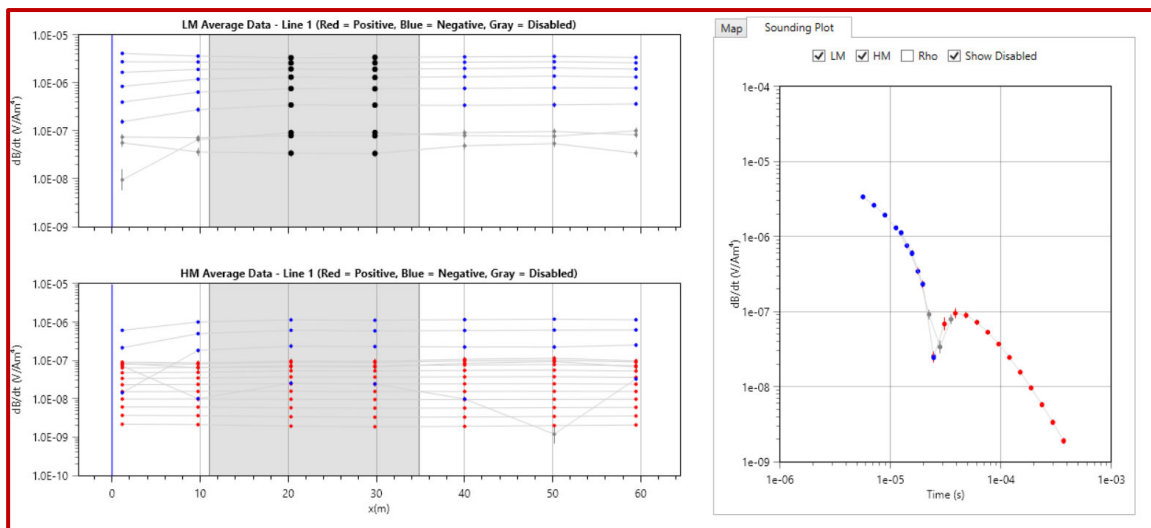

Figure 20: Example of a sign change in TEM data due to the presence of a very conductive near-surface layer (in this case saltwater)
- In areas with a very conductive near-surface layer, the signal may start negative and transition to positive (Figure 20)